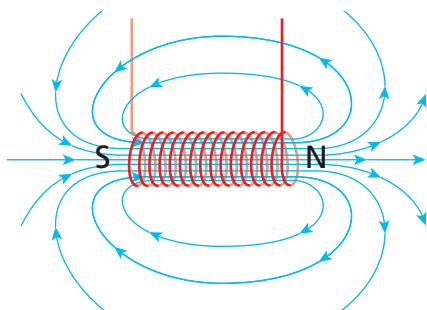

FIGURE 2.6.6d: Coils with many turns of wire are used in electromagnetic devices.
The shape of the magnetic field around a long coil of current-carrying wire is similar to that of a bar magnet, as shown in Figure 2.6.6d. One end of the coil is the N pole and the other end is the S pole. Reversing the direction of the current reverses the magnetic field – the S pole becomes the N pole and vice versa. Increasing the number of coils increases the magnetic field around the loops, resulting in a stronger field. Using a magnetic material, like iron, as a core strengthens the field.
6. What would happen to the magnetic field lines if the current in Figure 2.6.6d was increased?